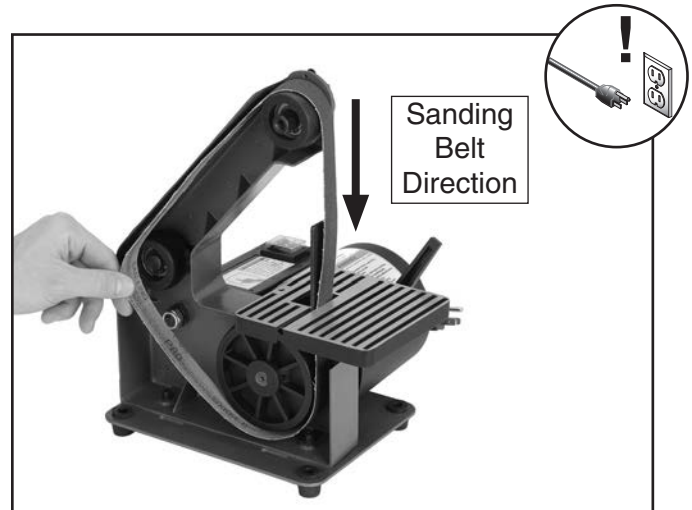

Figure 14. Replacing sanding belt.
4. Roll the old sanding belt off the three pulleys, and roll the new belt back on, making sure the directional arrows on the back of the belt point downward at the table (**Figure 14**).